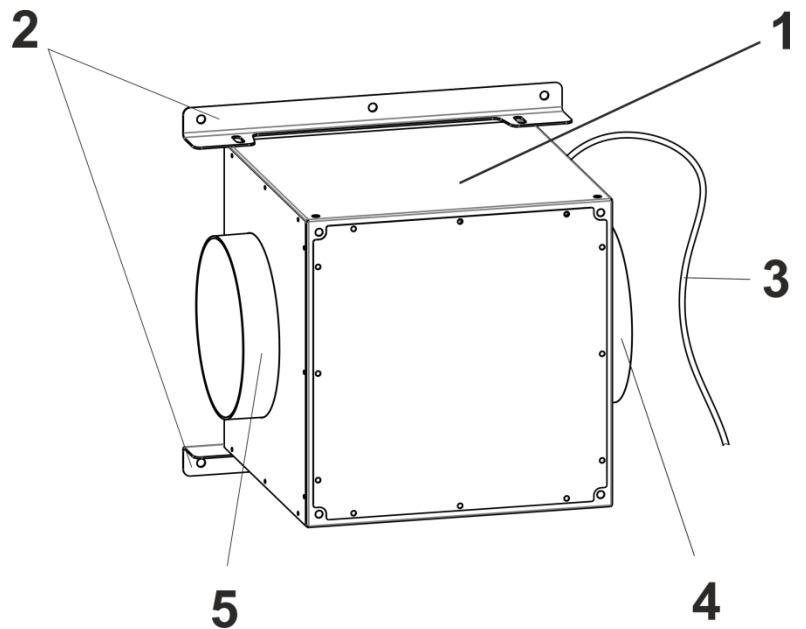

Fig.1
5.2 The ventilating fan consists of the following components (**fig.1**)